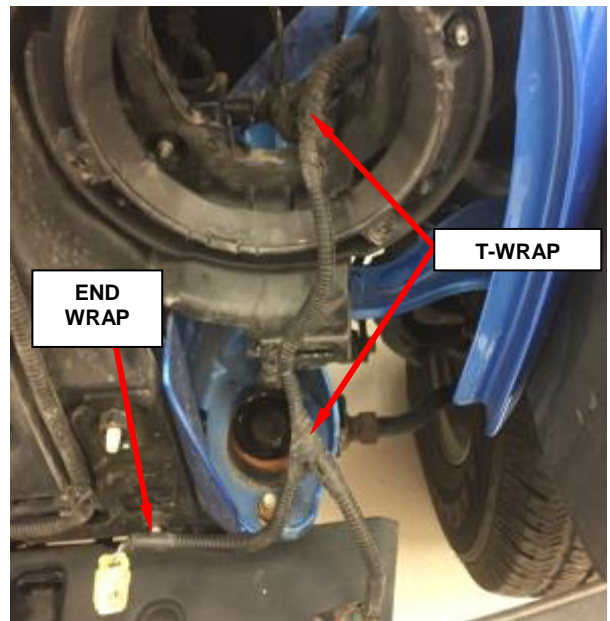

Figure 14 – Remove Tape
36. Remove the end wrap at the left front impact sensor (Figure 14).
37. Remove the T-wrap tape at two locations from the wire harness (Figure 14).